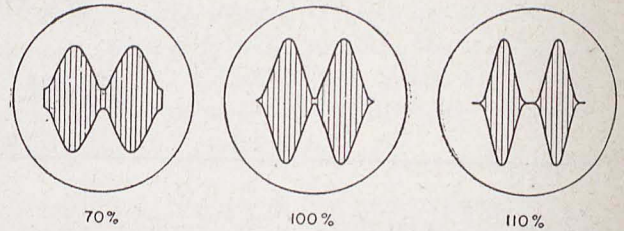

Figure 28. Modulation patterns of transmitter of Radio Receiver and Transmitter BC-1306.
(2) *Test.* (a) The pattern must indicate between 70 and 110 percent sinusoidal modulation. Check against patterns of figure 28.